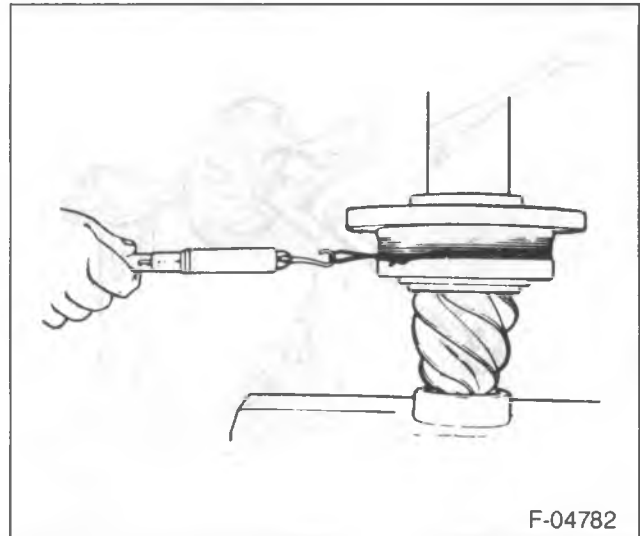

Figure 15—Measuring the Preload Torque
- 2. Pinion pilot bearing (52) onto the pinion.
- 3. Bearing lock ring (51).
- 4. Pinion (37) into the cage (54).
- 6. Pinion front bearing (57).
- Wrap a soft wire around the cage and pull on the line with a pound scale. Measure the rotating torque, not the starting torque (figure 15).